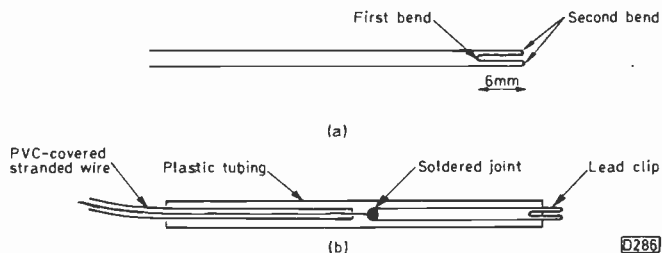

Fig. 1: Transistor lead clip.
- (3) A piece of Sellotape applied to printed circuit tracks adjacent to one to be soldered prevents solder bridges forming.
- (4) Long, thin wooden sticks of suitable thickness make excellent starters for screws and bolts with Phillips heads.
- (5) Small transparent plastic boxes with lids enable you to keep screws, nuts etc. from a set being repaired together so that they are not mislaid.
- (6) A short length of guitar string wire makes an effective transistor lead clip for small-signal transistors so that one has only two leads to cope with. Make the clip as follows (see Fig. 1). Take a length of "B" guitar string, about 5cm long, and cold bend it in two until the sides touch. Make a second bend at a point some 6mm from the first one – the sides must again touch and be parallel. Roughen the two free ends and solder them to a length of PVC-covered stranded wire. Lastly, cover all but about 3mm of the clip with a length of stiff plastic tubing some 2-3cm long. It's important that the clip is held tightly within the tubing, with no slipping. In use, press the clip against the transistor lead until it is gripped.